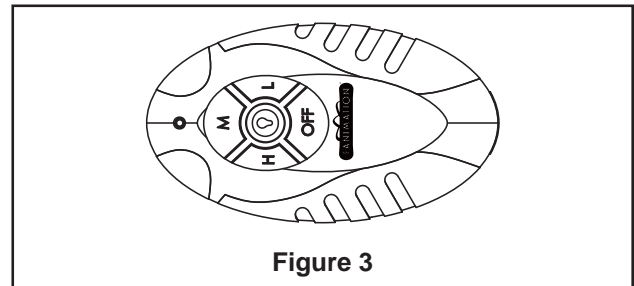

Figure 3
2. Carefully lift the fan and seat the downrod/hanger ball assembly on the hanger bracket that was just attached to the outlet box. Be sure the groove in the ball is lined up with tab on the hanger bracket (Figure 3).
2. Connect wires to terminal block as indicated: Green hanger bracket and hanger ball wires to green/yellow (earth) wire. Brown receiver unit wire (AC IN L) to red/brown live supply wire. Blue receiver unit wire (AC IN N) to blue/black neutral supply wire. Orange receiver unit wire (AC IN L1) to orange for light. Position all connected wires and receiver antenna to allow installation of ceiling canopy. Using canopy screws threaded into the hanger bracket reinstall ceiling canopy. Restore electrical power (Figure 3).
3. Remove and discard rubber motor stops (Figure 3).
3. **LIGHT: ON/OFF-** Press and release immediately to turn on or off the light.(Figure 3)